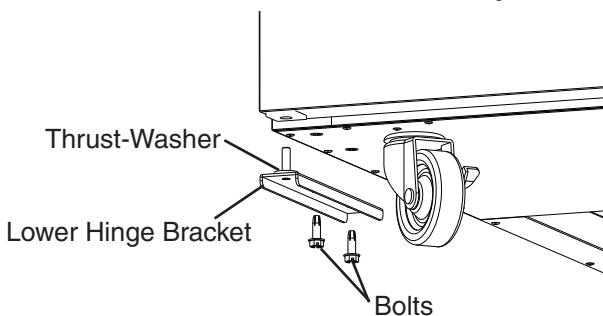

**Fig. 9**
- 9) Make sure the thrust-washers are in place on the spring cartridge, then install the upper hinge bracket onto the spring cartridge. See Fig. 9. The upper hinge bracket should be canted out towards the center as shown with the screw holes towards the back of the appliance.